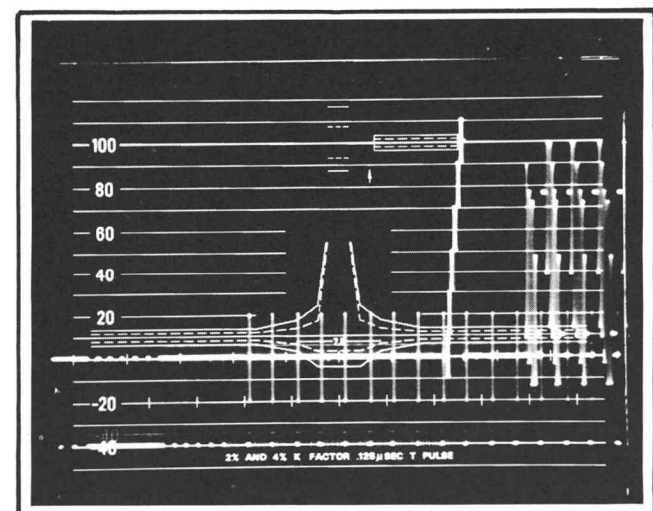

Fig. 2-7. Field blanking interval showing the VITS on line 18.
21. Adjust the Type R529 Horizontal Position control to display the field blanking interval. Set the 146 VIDEO switch to the up position and note the VITS staircase signal on line 18 (see Fig. 2-7). The VITS signal may be put on